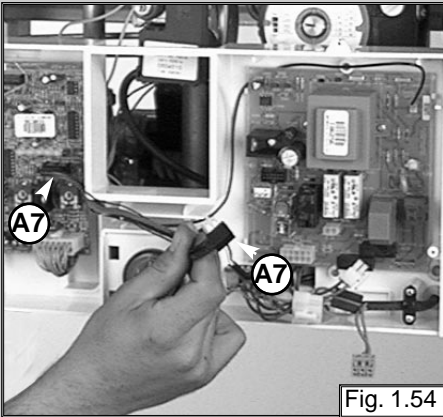

Fig. 1.54
6. Disconnect the connection cable "A7" (see fig. 1.54);